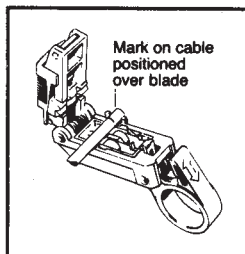

FIGURE 4
**D. HOLD THE TOOL** with the handle towards you and insert coax from left into the groove position. Locate mark on cable over the righthand blade, then close and latch tool. (Fig. 4 and 5)